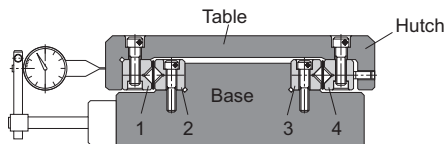

Fig.1 Installation of the Cross Roller Guide
- (3) Place the base and the tables as shown in Fig.1, and then insert the roller cage from the end. If the cage does not enter because there is no clearance, slide rail 4 toward the adjustment bolt first, and then insert the cage again.
- (4) Place a dial gauge as shown in Fig.1. Then, lightly screw all adjustment bolts evenly until the clearance is almost eliminated while gently pressing the table sideways.
- (5) Attach the stopper to the rail end.
- (6) Slide the table and adjust the cage position so as to achieve the required stroke.